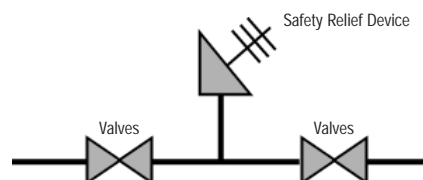

Fig. 1 Potential for trapping liquid between valves.
2. All cryogenic liquids produce large volumes of gas when they vaporize. For example, one volume of liquid nitrogen at atmospheric pressure vaporizes to 694 volumes of nitrogen gas at 68°F (20°C). A cryogenic liquid cannot be indefinitely maintained as a liquid even in well-insulated containers. If these liquids are vaporized in a sealed container, they can produce enormous pressures that could rupture the container. For this reason pressurized cryogenic containers are normally protected with multiple devices for over-pressure prevention. Common pressure-relief devices are a pressure-relief valve for primary protection and a rupture disc for secondary protection. All sections of equipment that may allow for the liquid to become trapped must be protected by a pressure-relief device as shown in Fig. 1. The product vented by these relief devices should be routed to a safe outdoor location.